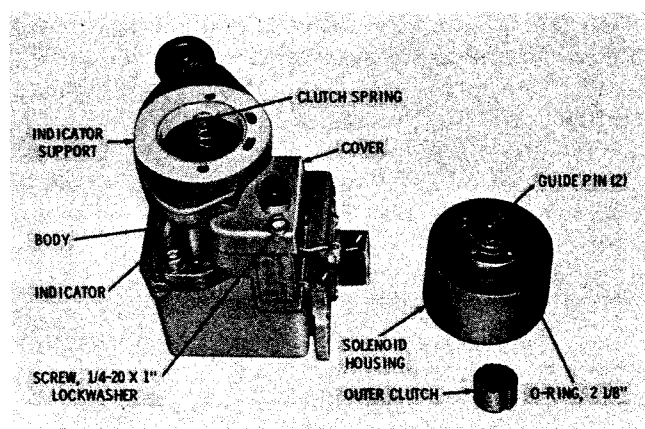

Fig. 4-9. Shift tower assembly with solenoid housing removed
(10) Remove the outer clutch from the solenoid housing (fig. 4-9). Remove the O-ring. Remove the guide pins from the solenoid housing only if new pins are required.
(11) Remove the clutch spring (fig. 4-9). Remove the indicator support.
(12) Remove the screw and lockwasher that retains the cover (fig. 4-9).
(19) Install the cover onto the body (fig. 4-9). Retain the cover with one 1/4-20 x 1-inch screw and lockwasher.
(20) If necessary, install a new indicator onto the indicator support (fig. 4-9). Install the indicator support onto the body cover (fig. 4-9). Apply a small quantity of Texaco Marfak No. 2 (or equivalent) grease to the teeth of the inner clutch. Position the clutch spring in the center recess of the inner clutch.
(21) If the guide pins were removed from the solenoid housing, install new pins (fig. 4-9). Press the pins until they are flush with the surface of the housing inner hub.
(22) Install the 2 1/8-inch O-ring onto the solenoid housing (fig. 4-9). Coat the outer surface of the outer clutch lightly with Marfak No. 2 (or equivalent) grease. Install the outer clutch, flat end first, into the solenoid housing. The clutch must move freely, endways, when engaged with the guide pins.
(23) Install the assembled solenoid housing onto the indicator support (fig. 4-9).